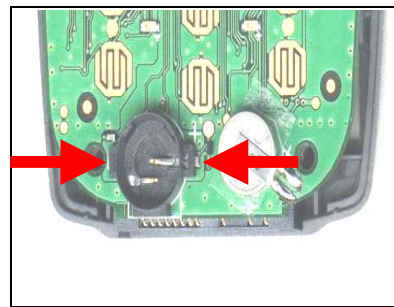

Fig. 8.2
- Check the Microphone holder (Fig. 8.2) if it's incorrectly soldered, dirty or oxidized.